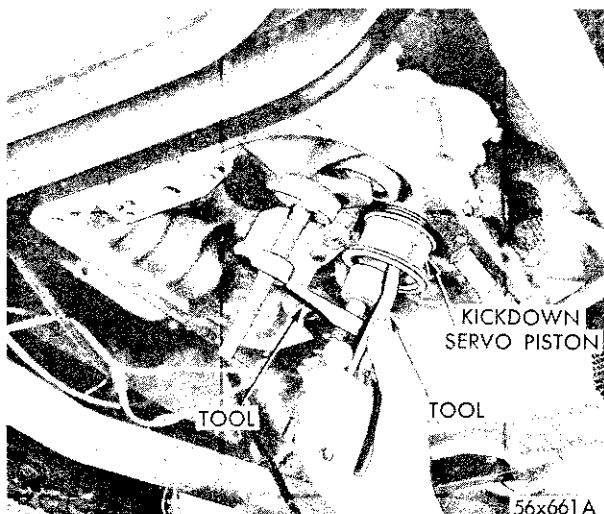

Fig. 22—Removal and Installation of Kickdown Piston
(1) Remove oil pan and valve body assembly.
(2) Loosen the kickdown band adjusting screw lock nut and back out screw sufficiently to remove anchor and strut.
(3) Install compressing Tool C-3529 or C-3289 (modified), apply sufficient pressure on kickdown piston rod guide and remove snap ring.
(4) Remove tool, piston rod guide, piston spring and rod. Using C-484 pliers, remove the kickdown piston from transmission case (Fig. 22). Refer to Kickdown Piston Inspection, Paragraph 82.